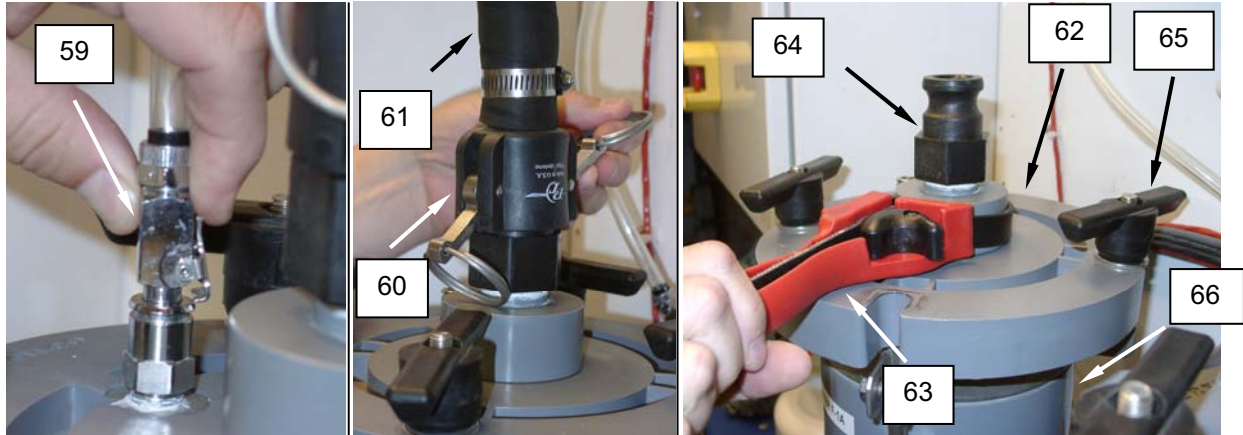

Figure 19. Install the F-1A and F-1B Filter Elements (Socks).
1. Disconnect the filter vent hose (**Figure 19, item 59**).
2. Disconnect the QD fitting (**Figure 19, item 60**) and hose (**Figure 19, item 61**) from the filter cap (**Figure 19, item 62**).
3. Use a strap wrench (**Figure 19, item 63**) to loosen the QD male fitting (**Figure 19, item 64**) from the filter cap (**Figure 19, item 62**).
- Loosen and remove the retaining knobs (**Figure 19, item 65**) securing the filter cap (**Figure 19, item 62**) to the filter housing (**Figure 19, item 66**), and remove the filter cap (**Figure 19, item 62**), from the filter housing.